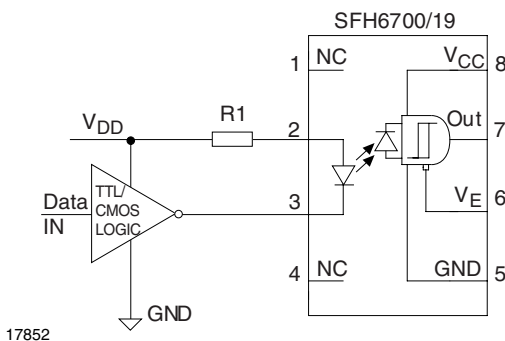
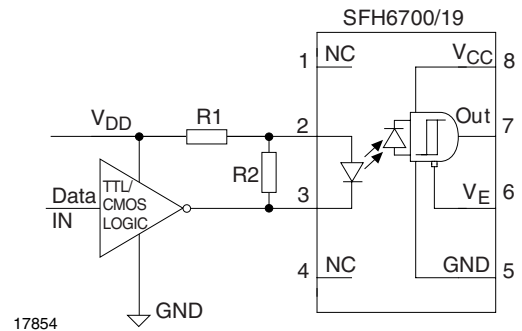

Fig. 3 - Series LED Drive
Fig. 5 - Shunt LED Drive Circuit with Leakage Current Protection
$$R_1 = \frac{V_{DD} - V_{OL} - V_F}{I_F} \quad (\text{valid for Figure 3}) \quad (2)$$
For critical applications, where a high leakage current is expected, a shunt LED circuit, as shown in figure 5, is a good solution.
Typical input circuit values to shunt around 250 μA away from the LED (according to figure 5)
A simple circuit, which also works for open collector drive circuits, has been presented in figures 3 and 5. In figure 5, the resistor R₂ represents a leakage current protection path.